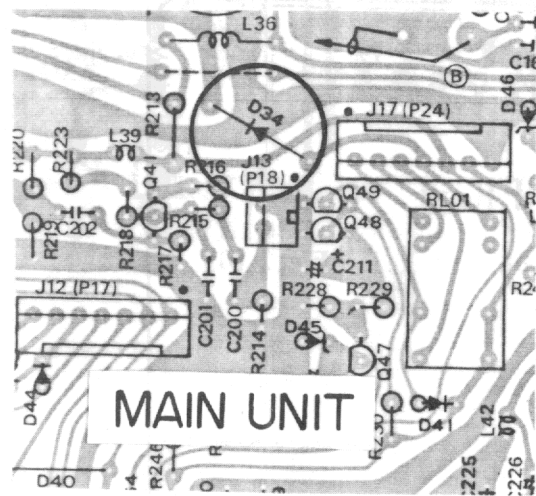

Figure 2-8
- 11) Unsolder the cathode of D₁₀₃₄ from the pattern, and pull the lead from the component side, as shown in Fig. 2-8.